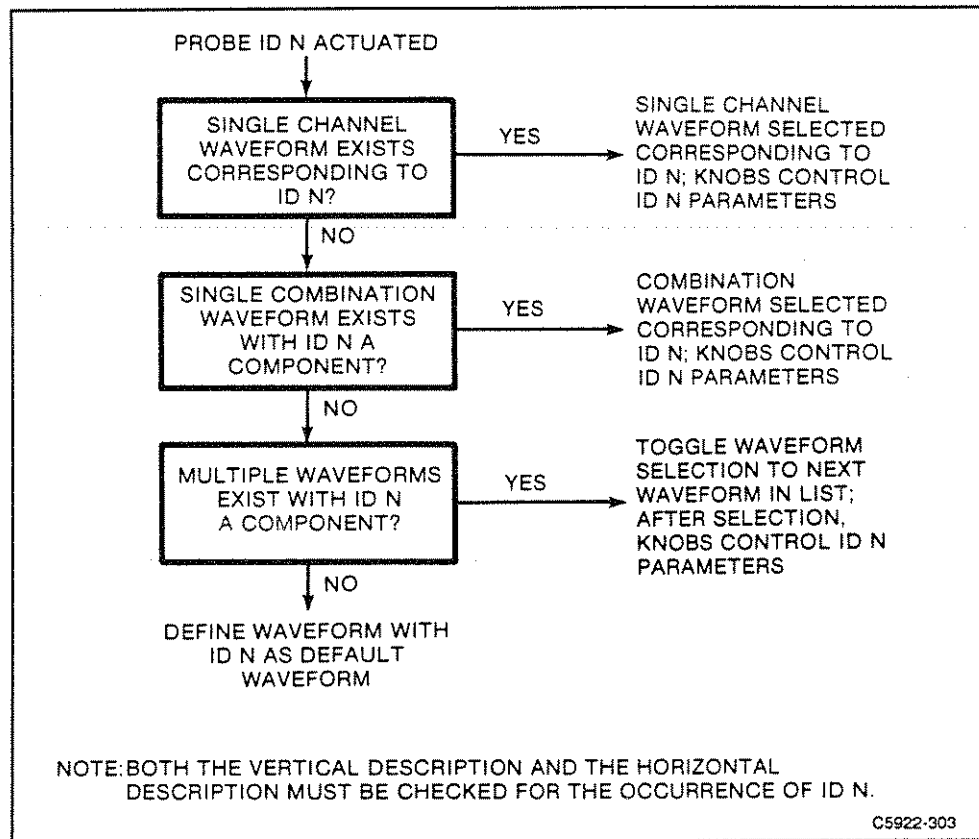

Figure 3-4 Sequence of decisions used to select a new waveform in response to probe ID button.
2. If the **Probe ID Function** (in the **Probes** pop-up menu of the **Utility** major menu) is set to **Waveform Select/New Wfm**, a waveform will be selected. Figure 3-4 shows the sequence of decisions used to select a new waveform.
3. If the **Probe ID Function** is set to **Wfm Select/New Wfm & AutoSet**, then the decisions shown in Figure 3-4 will be made, and the resulting selected waveform is autoselected.